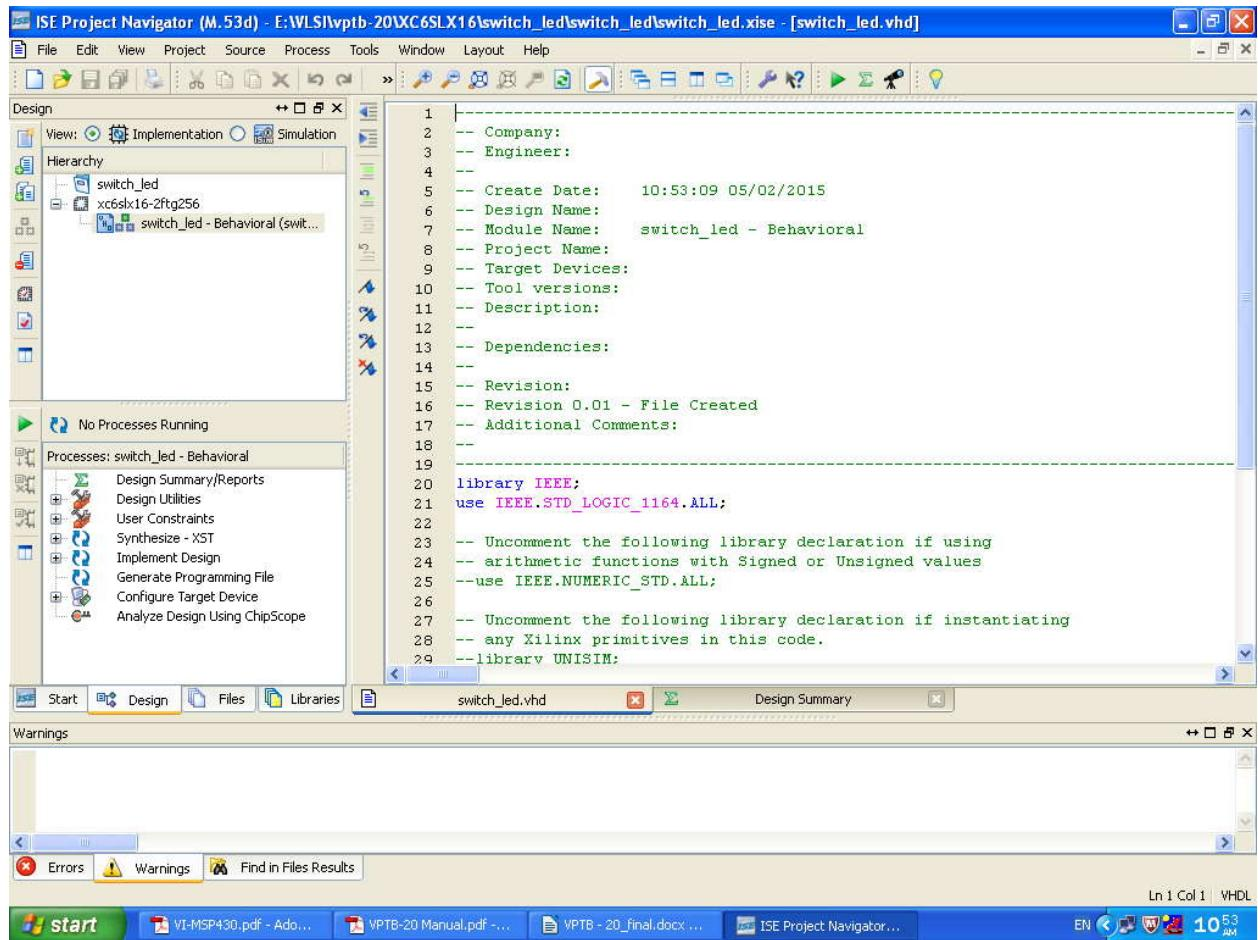

Figure-14
6. A window given in **Figure-14** will appear. You can type another library functions